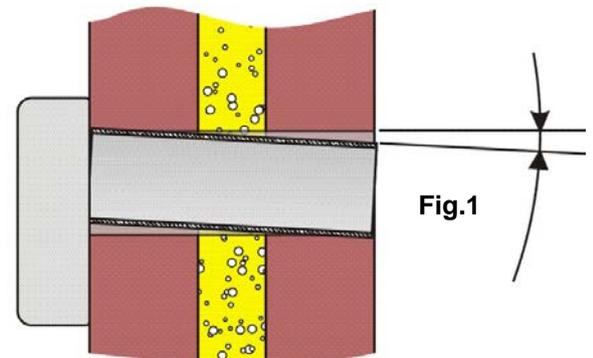

Fig.2
- 3) Undo 2 fixing screws and lift off Cover Plate Fig 2 & 3.